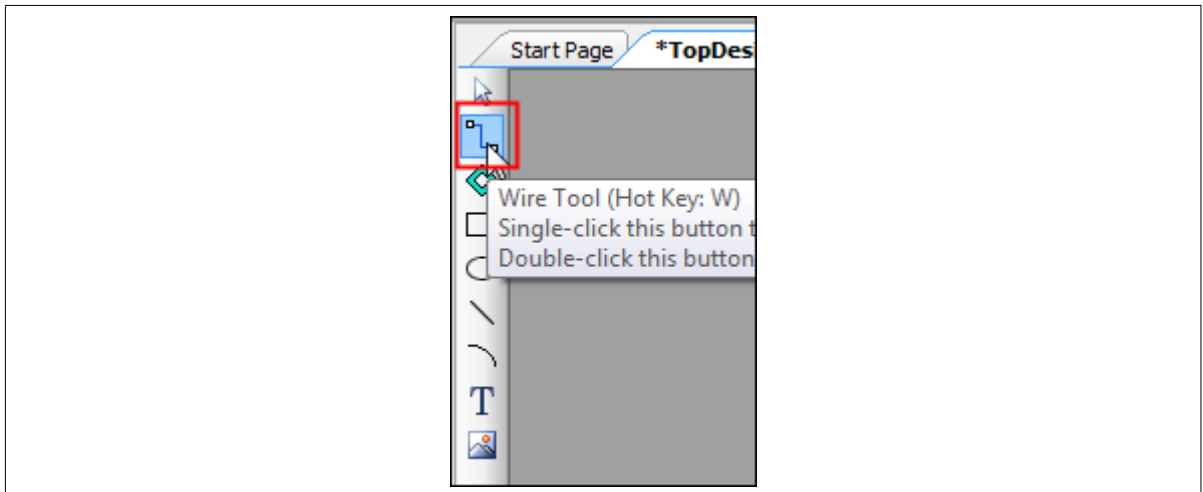

Figure 44 Selecting the wire tool
10. In the schematic window, select the wire tool as shown in Figure 44, or press **W**.